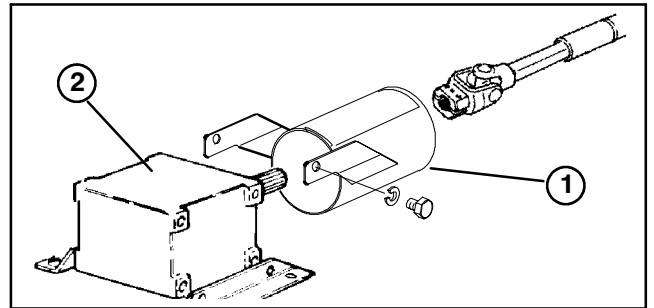

Figure 6
MOUNT PTO SHAFT GUARD AND CONNECT PTO SHAFT TO CUTTING UNIT GEAR BOX (Model 30553 TE Only) (Fig. 6)
1. Remove (2) capscrews and lockwashers securing PTO guard mounting brackets to gearbox (Fig. 6) . Retain fasteners for re–installation.
2. Slide PTO shaft guard onto PTO shaft, positioning guard as shown in figure 6.